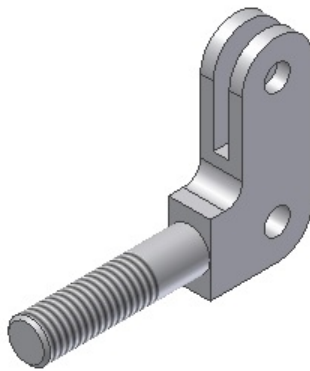
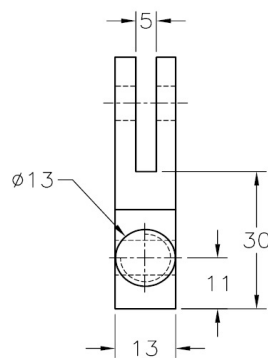
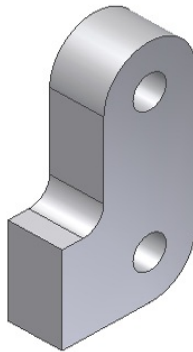
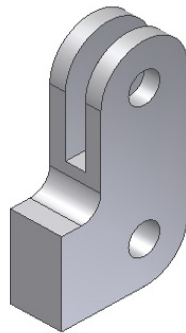

Figure 8-147a Solid model of the Joint
Figure 8-147b Left side view of the model
Figure 8-148 Base feature for the model
Figure 8-149 Model after creating the cut feature
In this tutorial, you will create the model of the Joint shown in Figure 8-147a. Its dimensions are shown in Figures 8-147b and 8-147c. The threads to be created are ANSI Metric M Profile of size 14 and designation M14x2. The class of the threads is 6g. Make sure the threads are right-handed. **(Expected time: 30 min)**
- Create the base feature of the model on the YZ plane, refer to Figure 8-148.
- Create the cut feature, refer to Figure 8-149.
1. Create the base feature of the model on the YZ plane, as shown in Figure 8-148. For dimensions of the base feature, refer to Figures 8-147b and 8-147c.
1. Create the cut feature by defining a sketch plane on the right face of the base feature, as shown in Figure 8-149. For dimensions of the cut feature, refer to Figure 8-147b.
refer to Figures 8-147b and 8-147c.